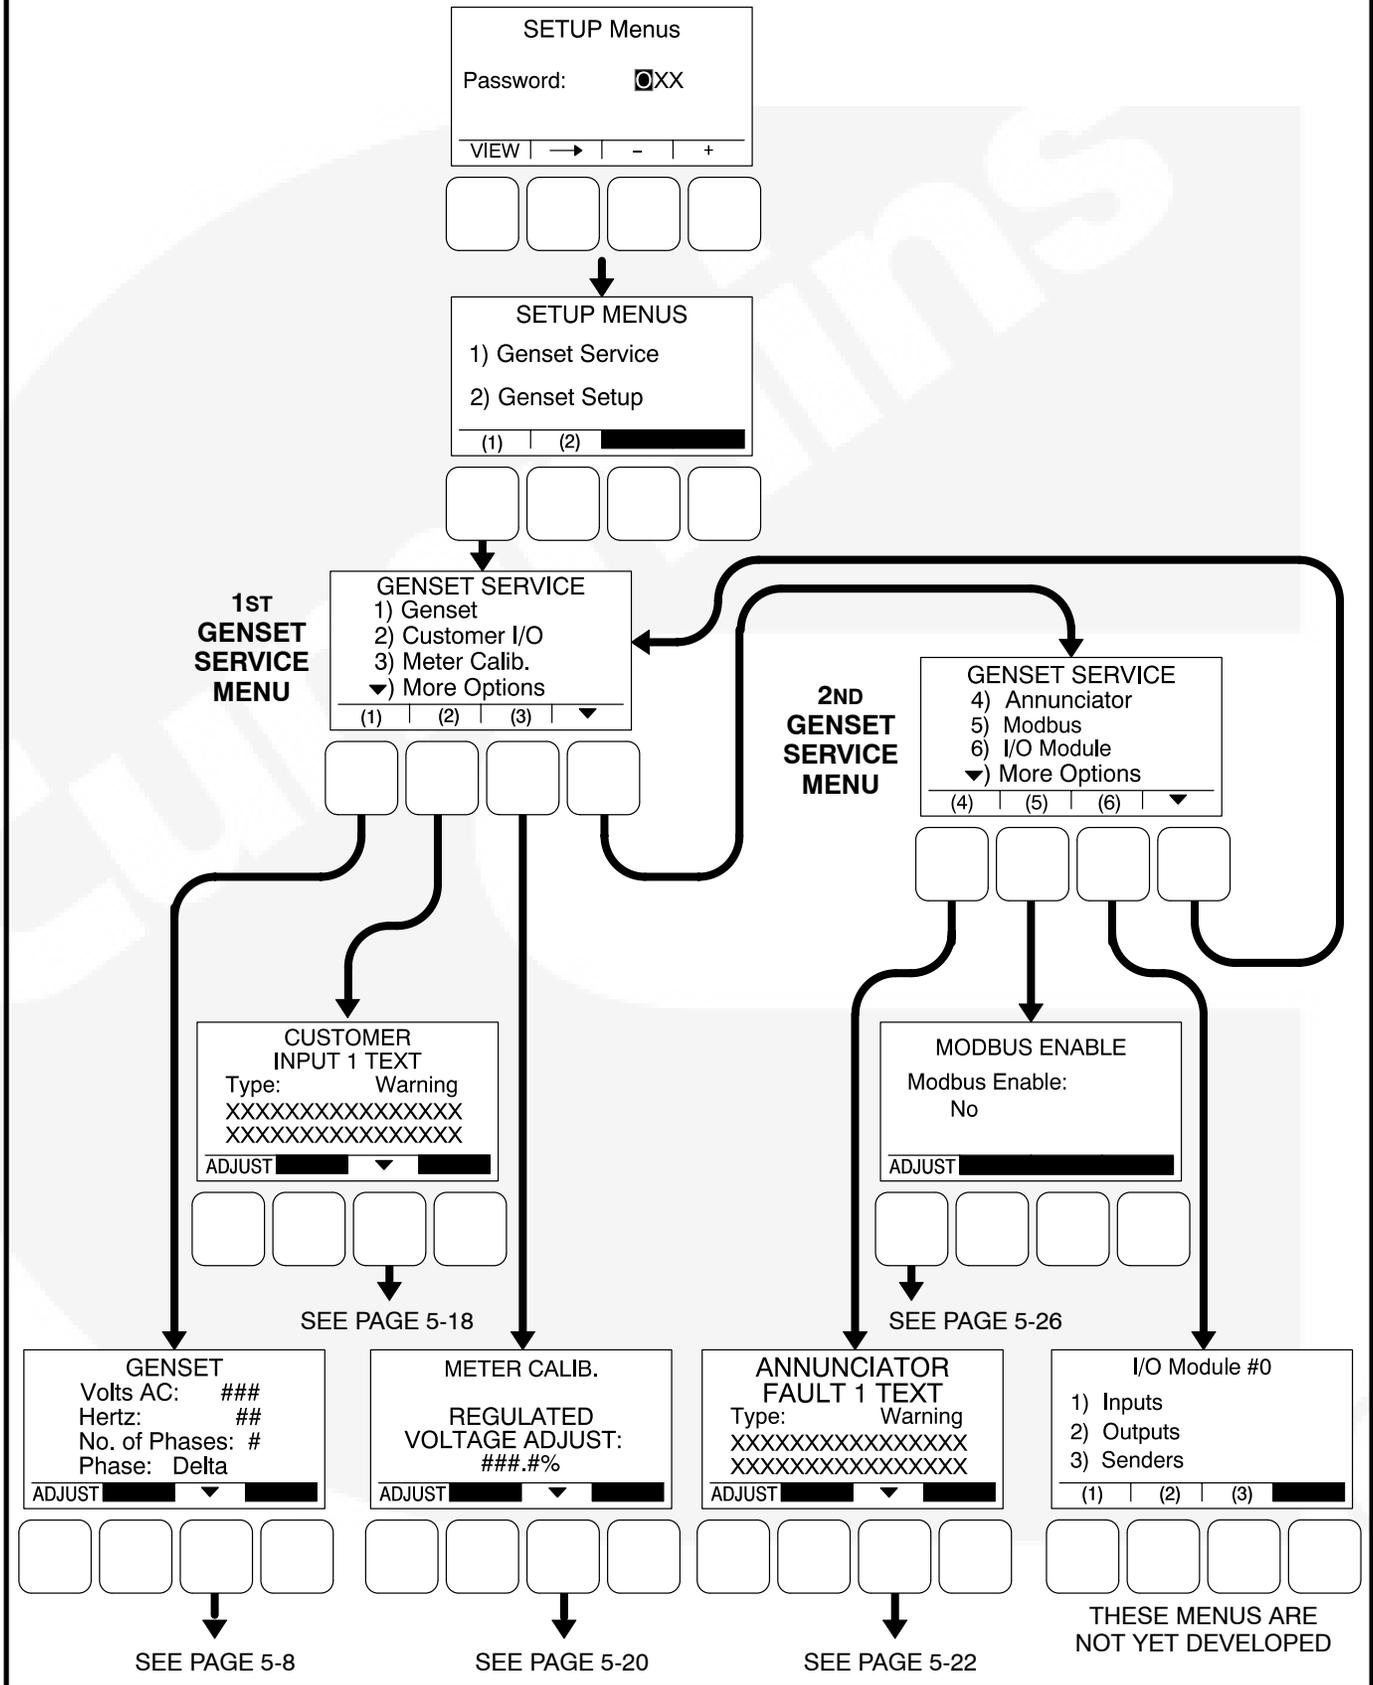

FIGURE 5-4. GENSET SERVICE MENUS
Figure 5-4 is a block representation of the Genset Service menus that are available from the Setup Menus menu after the correct password has been entered. The **ADJUST** button is available on these submenus; therefore, adjusting the settings is allowed.
When the Password menu is displayed, the first numeric character (0) is highlighted (see Figure 5-4).
The Genset Service submenus are available by pressing the **(1)** button on the first Genset Service menu (see Figure 5-3 or Figure 5-4).